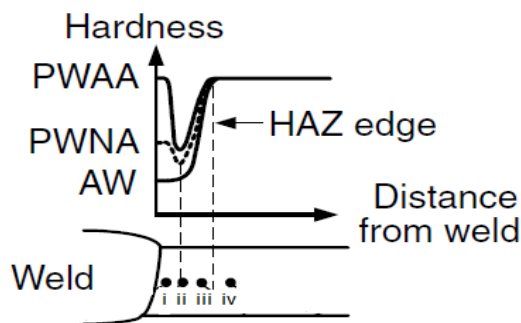

Figure 1: HAZ profile in an Al-Cu aluminum alloy
- (b) Refer to Figure 1 above;
- Explain why hardness profile as welded condition (AW) is lower at location (i) and (ii). (4 Marks)